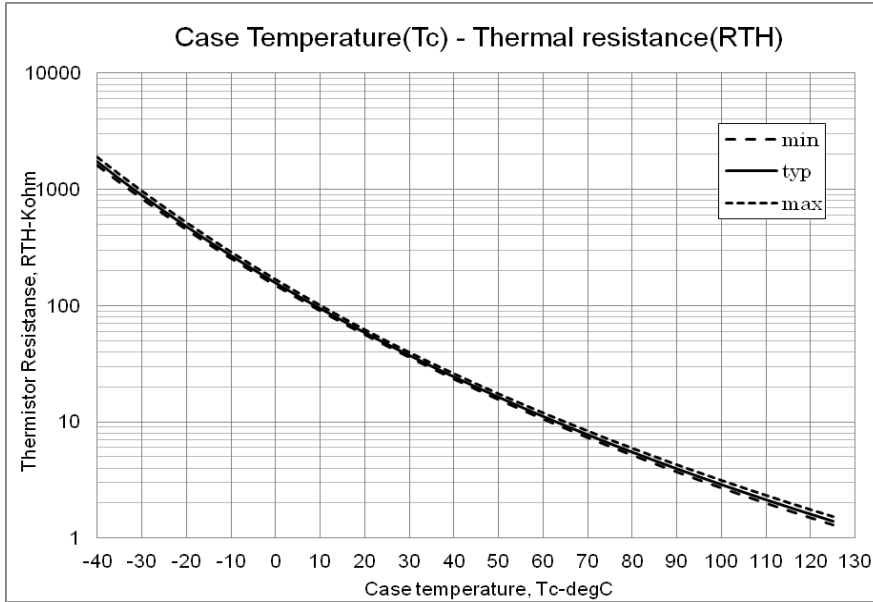
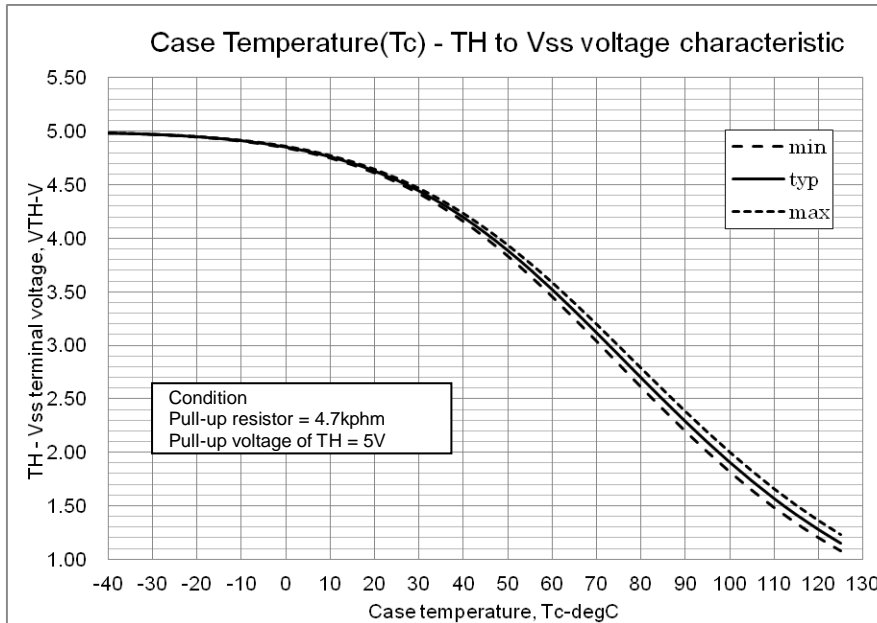

Fig.10 Variation of thermistor resistance with temperature
Fig.11 Variation of temperature sense voltage with thermistor temperature
- Inside the H-IC, a thermistor used as the temperature monitor for internal substrate is connected between VSS terminal and TH terminal, therefore, an external pull up resistor connected between the TH terminal and an external power supply should be used. The temperature monitor example application is as follows, please refer the Fig.10, and Fig.11 below.